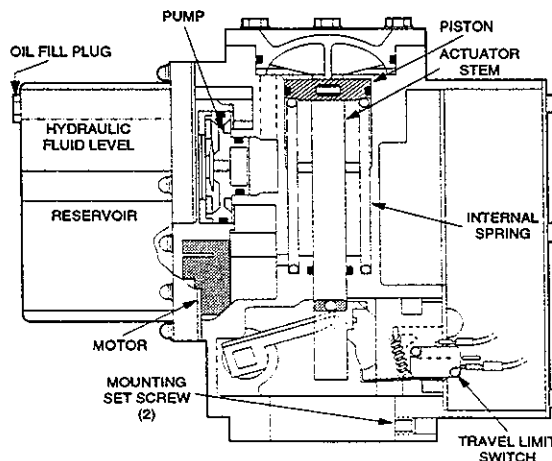

Figure 2. Cutaway Schematic (Deenergized Position)
1. Position the actuator to operate the valve (and damper if appropriate), and secure with the two mounting set screws (Figure 2). AH2B and AH13B actuators can be installed to operate in any position.
2. Disconnect actuator and switch wiring. Remove two mounting screws and the limit switch (Figure 2).
1. **Turn off power supply.** Remove six cover screws and the cover plate (15). Install cover plate gasket (16), cover plate, and screws.
2. Remove windows (18). Install window gaskets (17), windows (18), and screws.
3. Loosen the two mounting set screws (Figure 2) and lift the actuator from the valve.